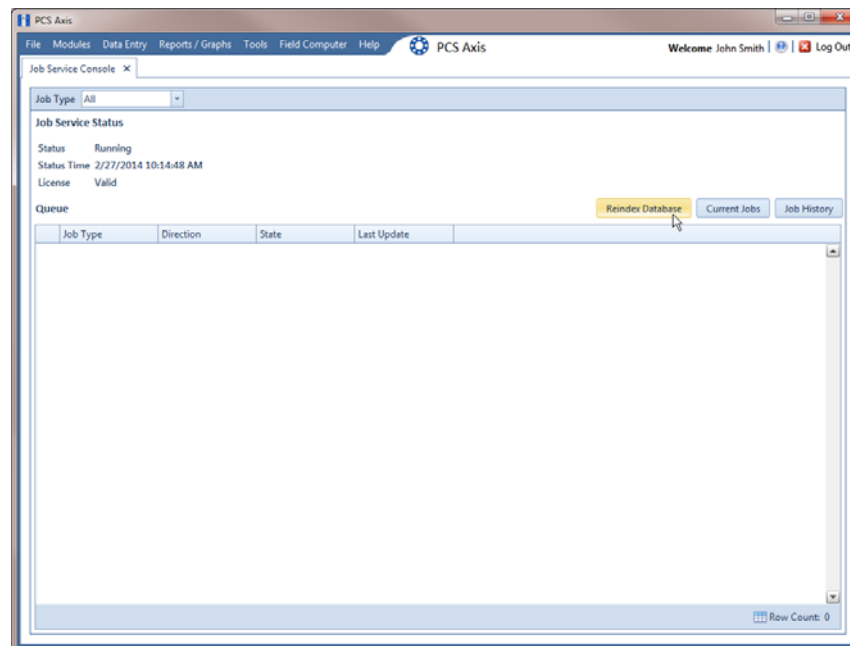

Figure 17-3. Job Service Console
- 1 Click **Tools** > **Job Service Viewer** to open the *Job Service Console* window (Figure 17-3).